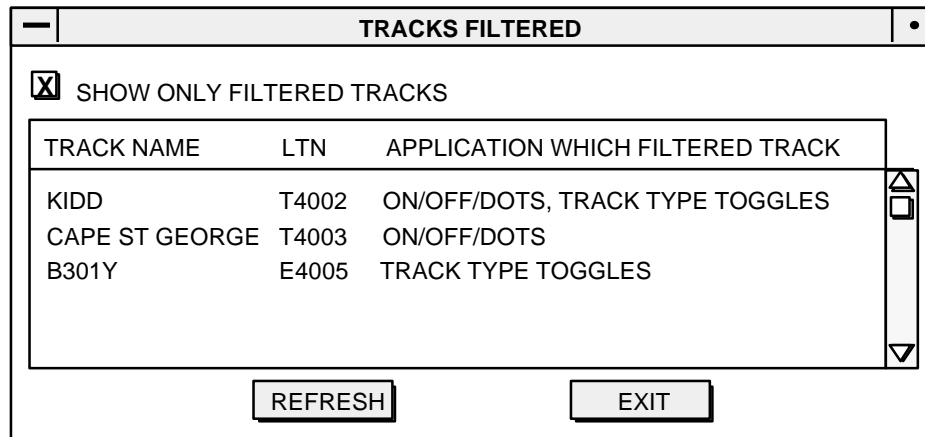

Figure 10.11-2 Filtered Tracks only
4. The ENTER DESCRIPTION window (Figure 10.11-2) opens to enter up to 60 characters to describe the saved controls.
1. Toggle the SHOW ONLY FILTERED TRACKS checkbox ON (Figure 10.11-2).